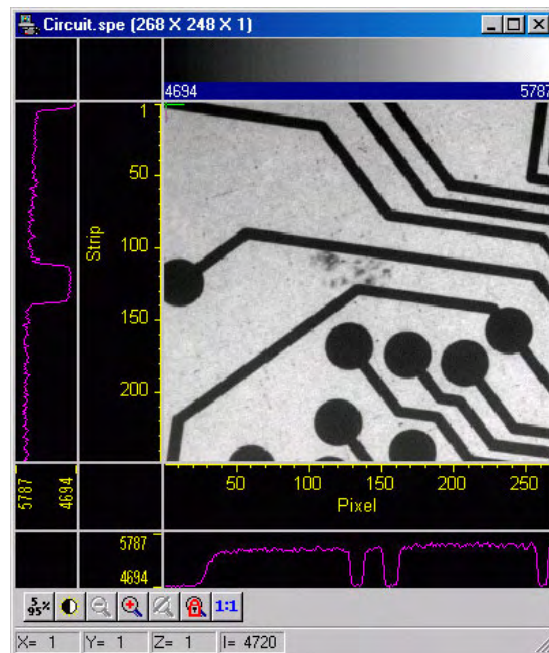

Figure 74. Circuit.spe with Axes and Cross-Sections
- The display should now appear as shown in Figure 74. The axes will be labeled in image pixels and strips with respect to the CCD chip used to acquire the image. The vertical image intensity profile at the cursor position will be displayed to the left and the horizontal image intensity profile at the bottom. The minimum and maximum values for each profile are indicated. Note that you can use the mouse and drag the axes and profile boundaries to change the size of the profile display regions. To change the cursor location, simply click the mouse at the new spot. The cross-sectional graphs will change to reflect the profiles at the new location.